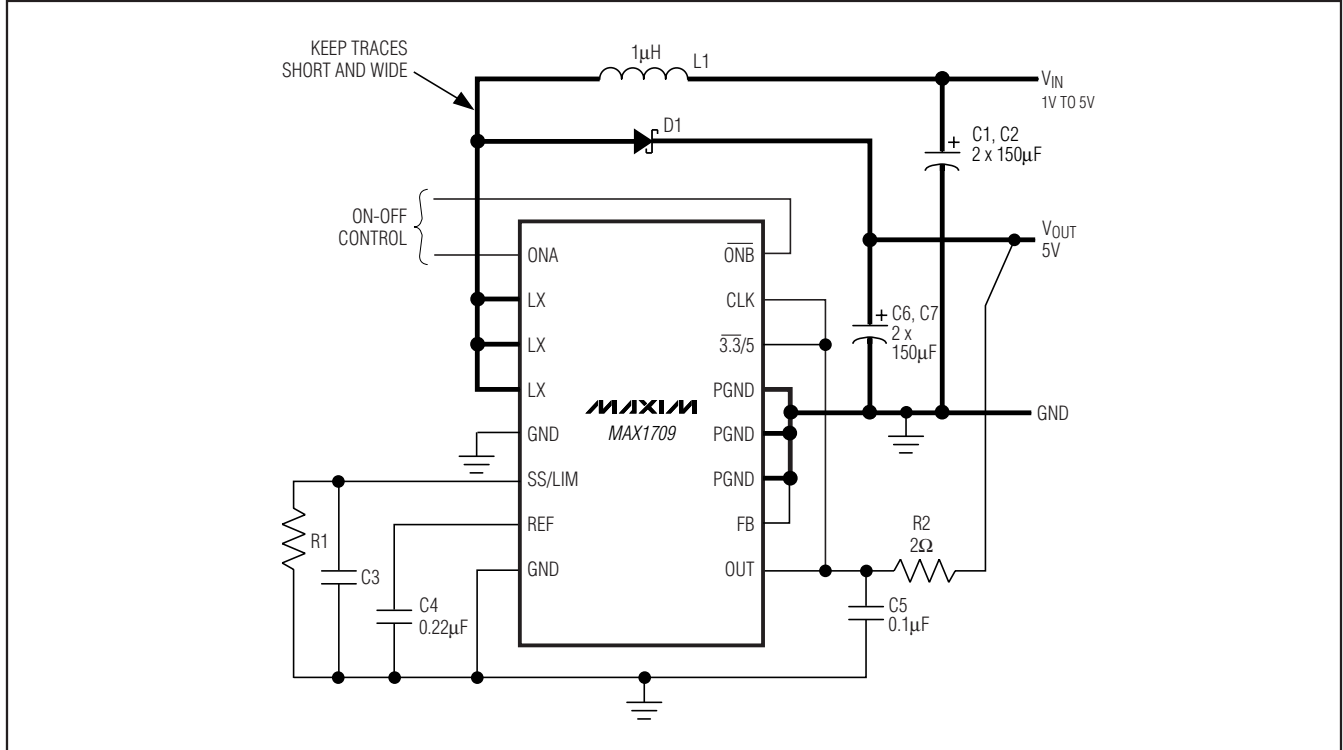
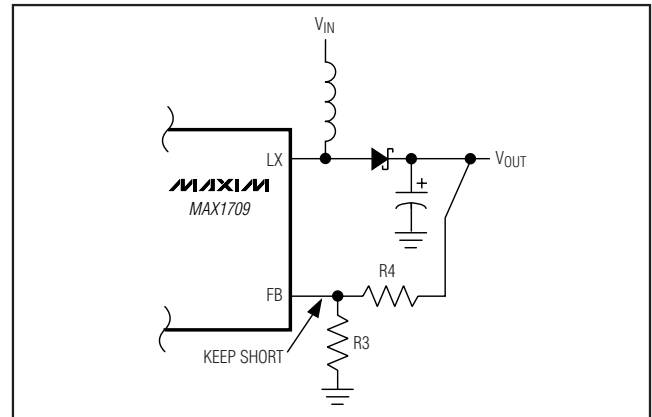

Figure 1. Standard Operating Circuit
Figure 4. Adjustable Output Voltage
**Note 4:** Startup is tested with Figure 1's circuit. Output current is measured when both the input and output voltages are applied.
(Circuit of Figure 1,  $T_A = +25^\circ\text{C}$ , unless otherwise noted.)
The MAX1709 features Dual-Mode™ operation. When FB is connected to ground, the MAX1709 generates a fixed output voltage of either +3.3V or +5V, depending on the logic applied to the  $\overline{3.3/5}$  input (Figure 1). The output can be configured for other voltages, using two external resistors as shown in Figure 4. To set the output voltage externally, choose an R3 value that is large enough to minimize load at the output but small enough to minimize errors due to leakage and the time constant to FB. A value of  $R3 \leq 50\text{k}\Omega$  is required.
on the logic applied to the  $\overline{3.3/5}$  input (Figure 1). The output can be configured for other voltages, using two external resistors as shown in Figure 4. To set the output voltage externally, choose an R3 value that is large enough to minimize load at the output but small enough to minimize errors due to leakage and the time constant to FB. A value of  $R3 \leq 50\text{k}\Omega$  is required.
from its nominal value (see *Electrical Characteristics*). A resistor (R1 in Figure 1) between SS/LIM and ground reduces the current limit as follows:
The output filter capacitor ESR must be kept under 15mΩ for stable operation. Two parallel 150µF polymer capacitors (Panasonic EEFUE0J151R) typically exhibit 5mΩ of ESR. This translates to approximately 35mV of output ripple at 7A switch current. Bypass the MAX1709 IC supply input (OUT) with a 0.1µF ceramic capacitor to GND and connect a 2Ω series resistor to OUT (R2, as shown in Figure 1).
Due to high inductor current levels and fast switching waveforms, proper PC board layout is essential. Protect sensitive analog grounds by using a star ground configuration. Connect PGND, the input bypass capacitor ground lead, and the output filter capacitor ground lead to a single point (star ground configuration). In addition, minimize trace lengths to reduce stray capacitance and trace resistance, especially from the LX pins to the catch diode (D1) and output capacitors (C6 and C7) to PGND pins. If an external resistor-divider is used to set the output voltage (Figure 4), the trace from FB to the resistors must be extremely short and must be shielded from switching signals, such as CLK or LX. Refer to a layout example in the MAX1709EVKIT data sheet.